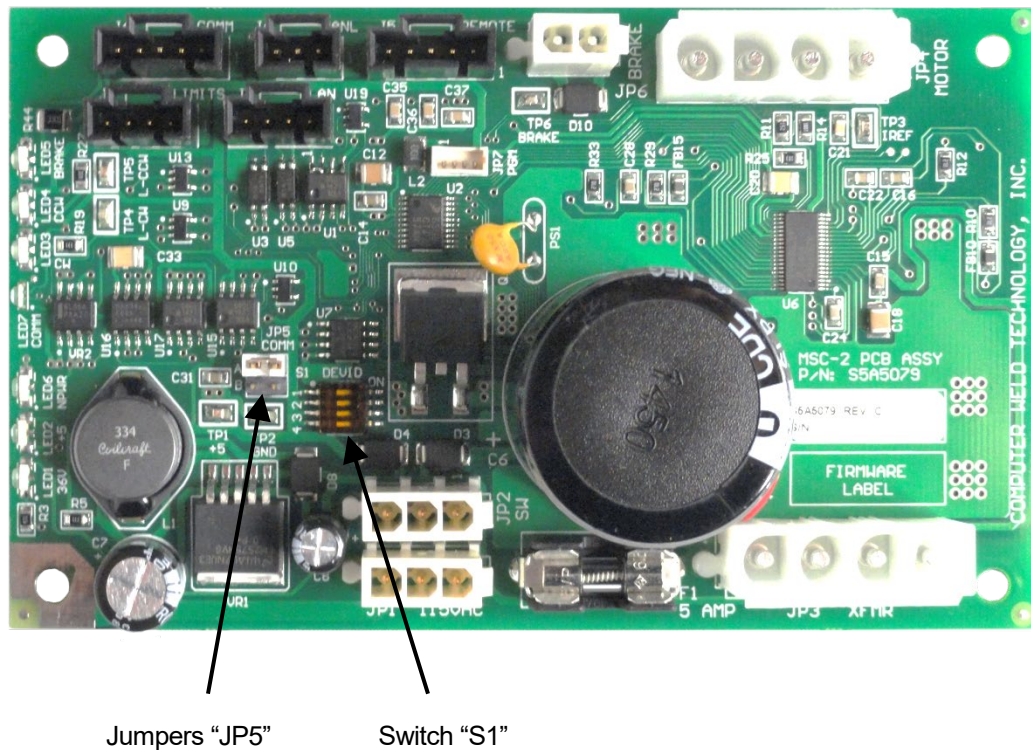

FIG 4-1 – S1 Switch and Jumper Locations
- Step 3. Locate S1, JP5 on the P.C.B. of the WOC-2 (see Figure 4-1)
(See Figure 4-1)